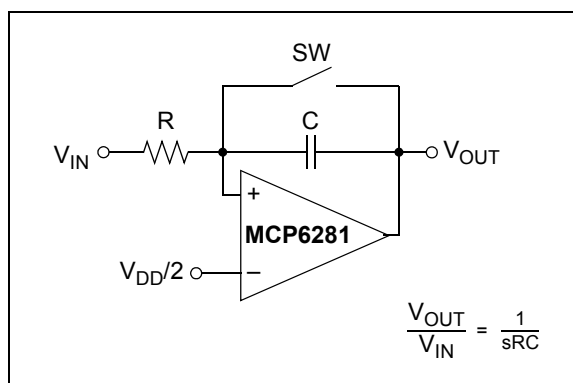

FIGURE 3-9: Miller Integrator.
Analog integrators are used in filters, control loops and measurement circuits. Figure 3-9 shows the most common implementation, the inverting Miller integrator. The non-inverting input is at $V_{DD}/2$ so that the op amp properly biases up. The switch (SW) is used to zero the output in some applications. Other applications use a feedback loop to keep the output within its linear range of operation.